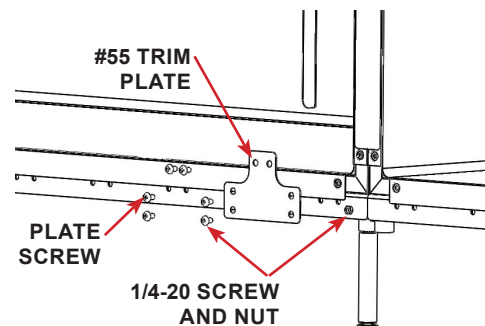

FIGURE 2.30 - Trim Plate #55
STEP 22: Install, but do NOT fully tighten screws, trim plate (#55) using the screws removed in the previous step. The bottom holes require 1/4-20 screws and nuts to secure the cage to the platform frame. Repeat this step for each cage added to the row. See FIGURE 2.30